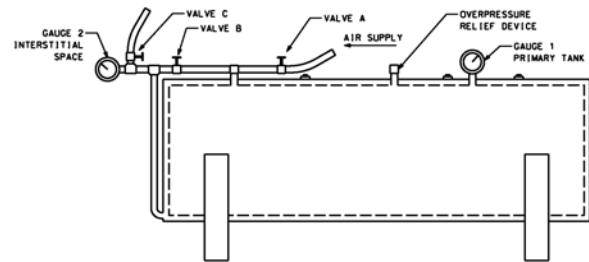

FIGURE 2
- 3.2.2.2 Install test piping as shown in Figure 2. Temporarily plug, cap or seal off remaining tank openings to hold pressure.
- 3.2.2.4 Connect the regulated test air supply line to test piping as shown in Figure 2.